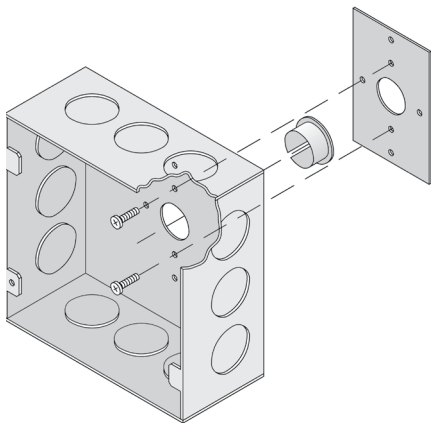
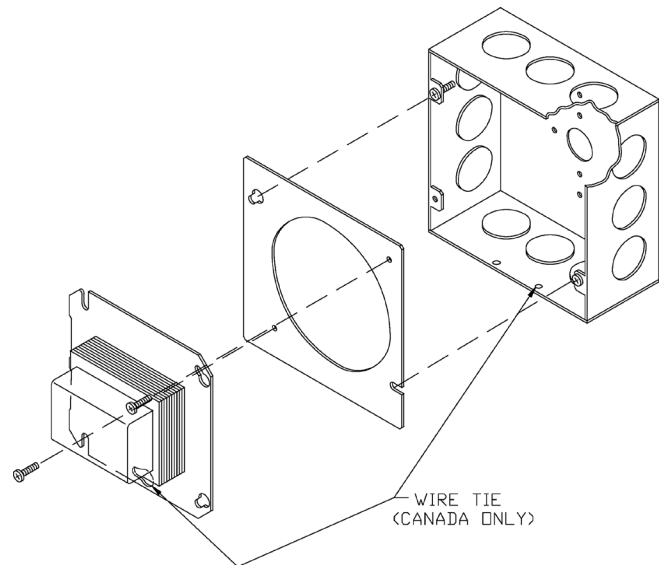

Figure 17A: Junction Box and Mounting Bracket Assembly
Figure 17B: Junction Box and Transformer Assembly
- a. Install Junction Box. See Figure 17A.
- ii. Install mounting bracket to rear of Junction Box with two (2) blunt sheet metal screws provided.
- iv. Install Junction Box to jacket from inside vestibule area with two (2) blunt sheet metal screws provided.
- b. Mount transformer on Junction Box. For Canadian boiler provide strain relief by loosely securing Transformer to Junction Box with wire tie inserted through Transformer plate and a Junction Box mounting hole. See Figure 17B.